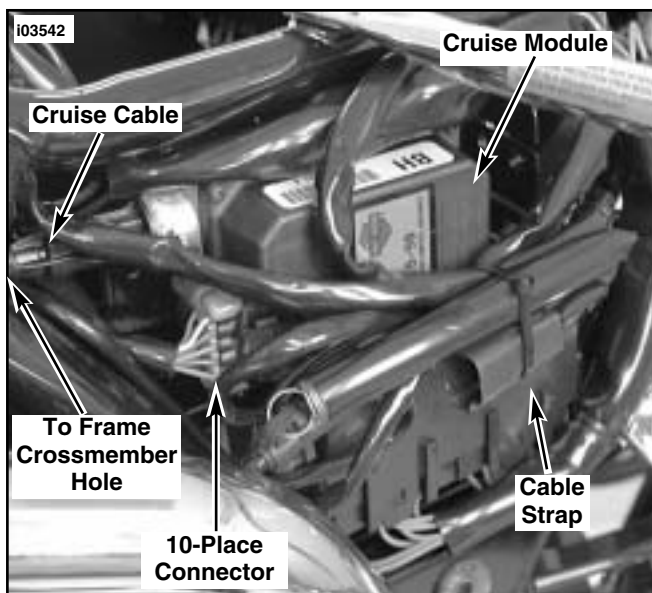

Figure 3. Mount Cruise Control Module
- See Figure 3. Remove the fuse block cover panel by pulling straight out from mounts and temporarily position the cover away from the mounting area. Align the cruise module studs (and grommets) with mounting holes in battery box and push module firmly into position. Make sure grommets enter mounting holes in battery box.
- See Service Parts Illustration. Obtain the three flange locknuts (7) and install to cruise control module studs (inside battery box). Tighten nuts 9-11 ft-lbs (12.2-15 Nm). Locate the 10-place connector harness (normally wire tied to frame tube next to battery box) and cut the tie. Route downward and install the 10-place connector into cruise module.